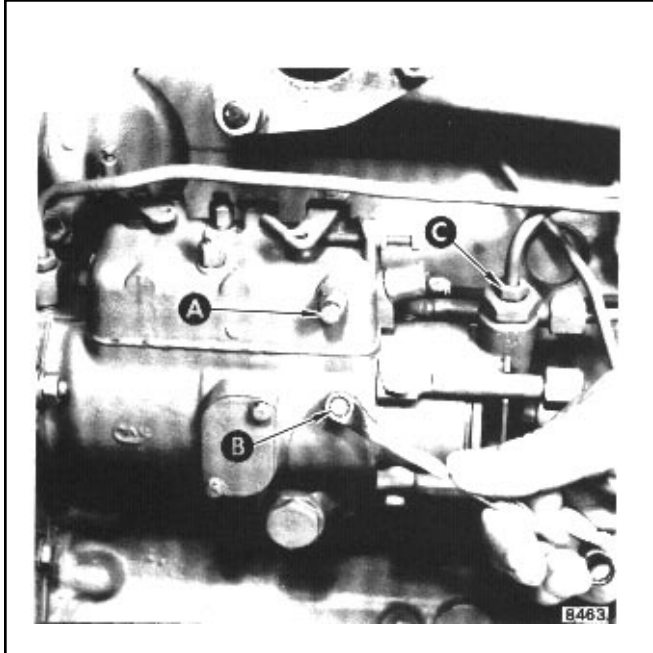

FIGURE 12. REMOVING AIR FROM DIESEL FUEL SYSTEM
REMOVING AIR FROM THE DIESEL FUEL SYSTEM (See Figure 12)
A. Loosen vent screw A at the fuel injector pump. (See Figure 12.)
B. Loosen vent screw B at the pump. (See Figure 12.)
D. Loosen the top nut C for the fuel tube at the fuel injector pump. (See Figure 12.)